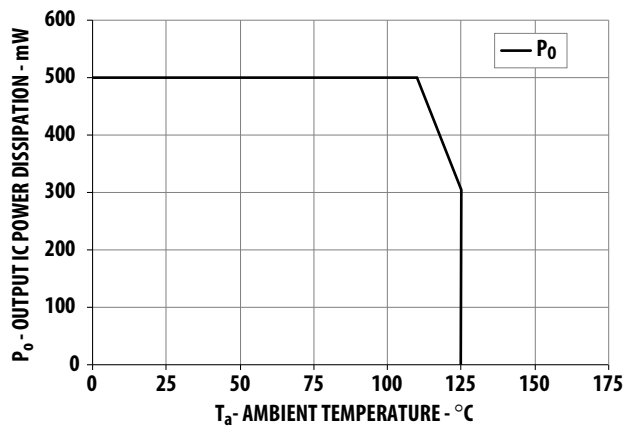

Figure 2. Output IC Power Dissipation Derating Chart
- Derate linearly above 110 $^{\circ}\text{C}$ free-air temperature at a rate of 13 mW/ $^{\circ}\text{C}$. Refer to Figure 2 from Output IC Power Dissipation Derating Chart.